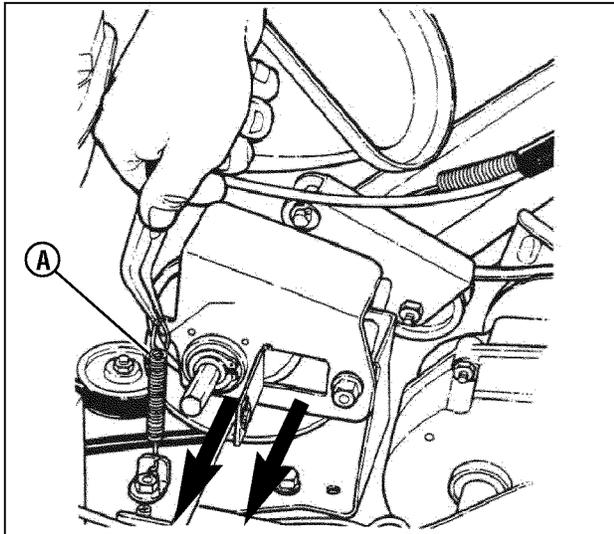

Figure 31: Removing the driven disc assembly
- Using needle nose pliers, unhook the drive spring (**A**, **Figure 31**) and slide the driven disc assembly off the hex shaft.